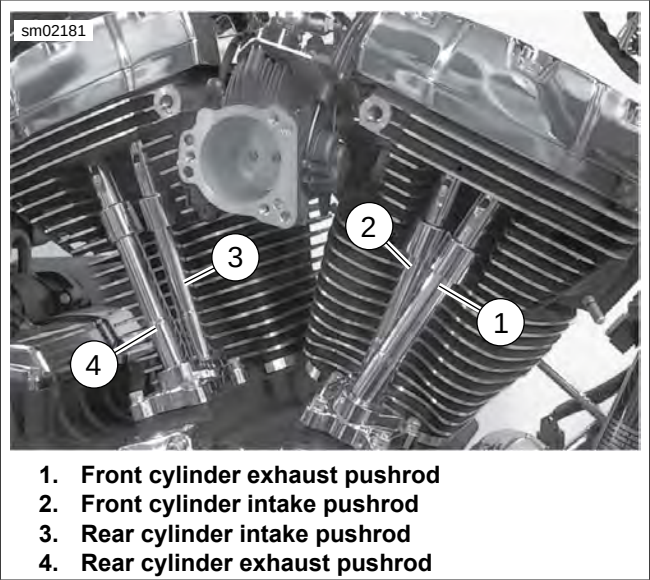

Figure 3-85. Pushrod Locations
8. See Figure 3-85. Install the pushrods. If installing original parts, install them in their original locations and orientation. Be sure to remove any tags that may have been used for identification.